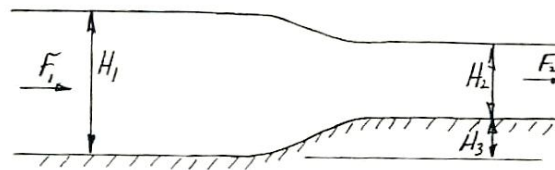

Figure P10.18
10.18 Water of density ρ flows in an open channel of constant width w with an initial depth of H_1 . At some point, the bottom rises smoothly to a height H_3 and the depth of the water decreases to H_2 , as shown in Figure P10.18. If the upstream Froude number $F_1 = 0.4$, and the downstream Froude number $F_2 = 1.0$: